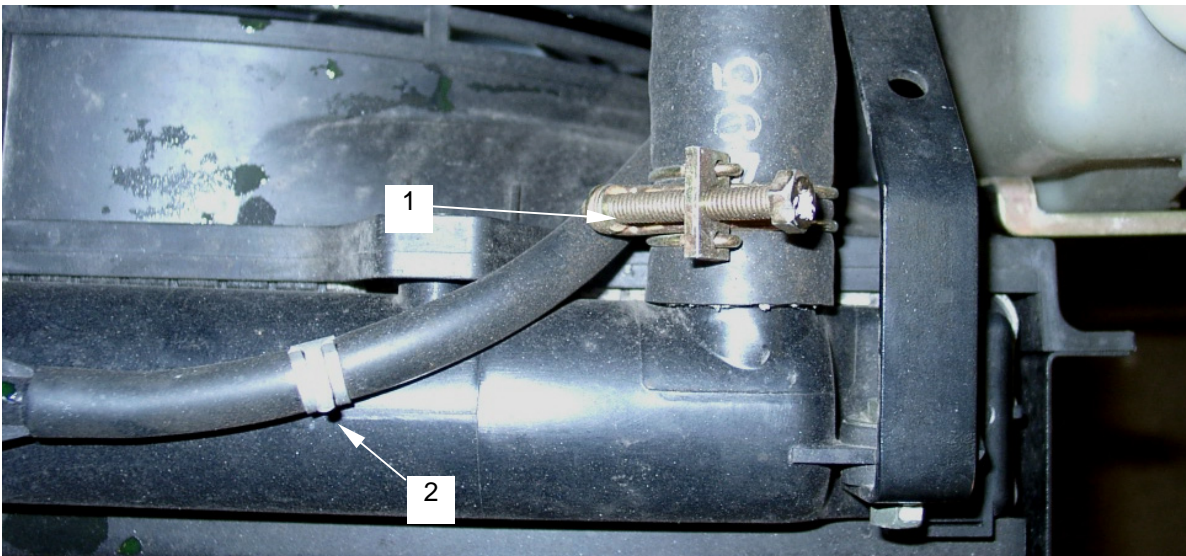

Figure 28. Upper Hose Clamps
- f. Loosen and slide back upper radiator hose clamp (**figure 28, item 1**). Remove hose from radiator.
- g. Loosen and slide back radiator overflow (**figure 28, item 2**) hose clamp. Remove hose from radiator.